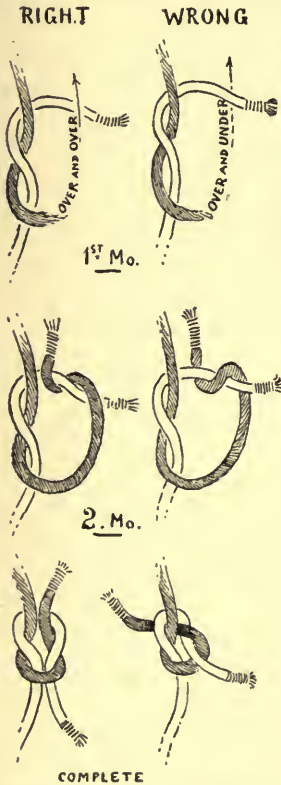

FIG. 5.—REEF OR RIGHT KNOT AND "GRANNY."
**LASHING.**—The commonest lashing is the *reef* or right knot. It has a multitude of uses, as for tying the head of a sail to its gaff, a top sail to its yard, etc., but it derives its name (reef) from the fact that reef points are always tied with this knot. It is with the reef knot that the mistake so often occurs which results in an unsafe fastening called the "*granny.*" The diagram (fig. 5) will show the difference between these. The invariable rule for tying the reef knot is—whichever end is uppermost after the first motion, must be uppermost in beginning the second. The reef knot, when so tied that it may be more easily undone, is called a *draw knot*, and may be either single or double. In the *single draw knot*, the first motion of the reef knot having been made, a bend is made in one of the projecting ends, and that bend or double-end is used to finish the knot with the other single end. In the *double draw knot* both projecting ends are doubled and the knot is finished with them, making, in fact, a bow.